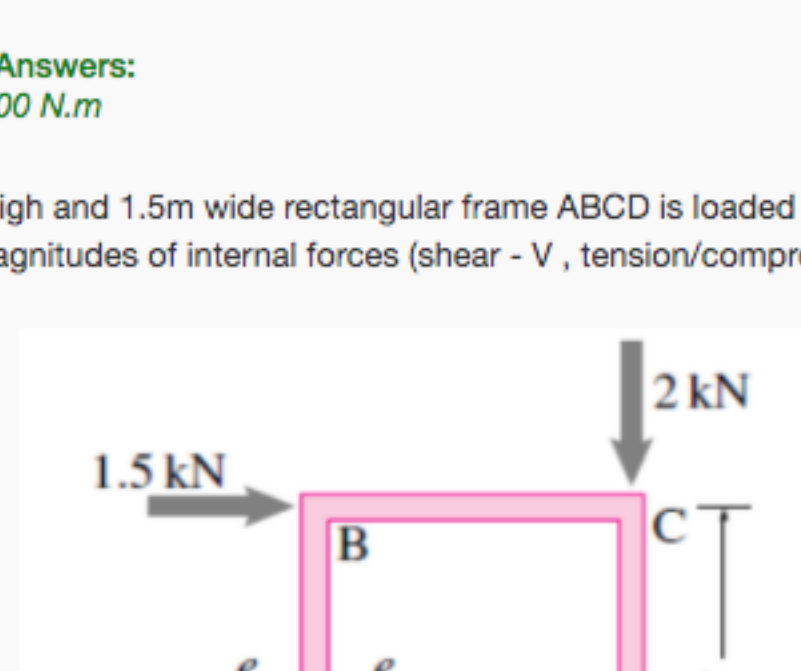

Figure 9: Figure for question No.9
9) The high and 1.5m wide rectangular frame ABCD is loaded with a 1.5 kN horizontal force at B and a 2 kN vertical force at C as shown in Figure 9. The magnitudes of internal forces (shear - V , tension/compression - T) and moments (bending moment - M) at the mid-section e-e of the vertical leg AB will be **1 point**